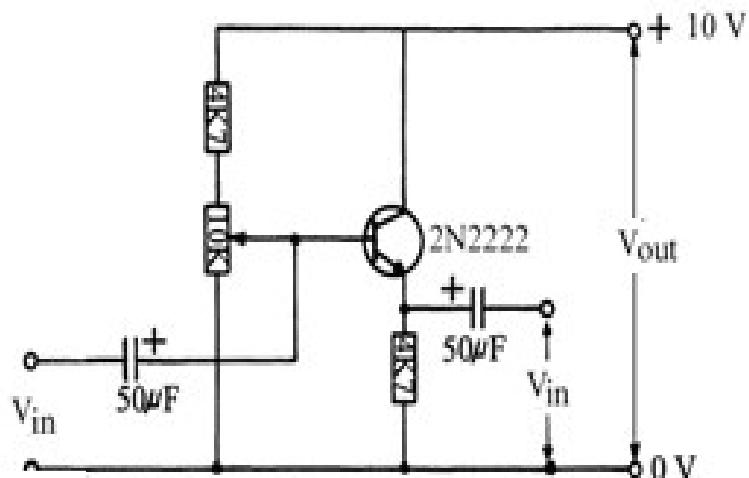

Figure 7
- Construct the circuit shown in Fig. 7.